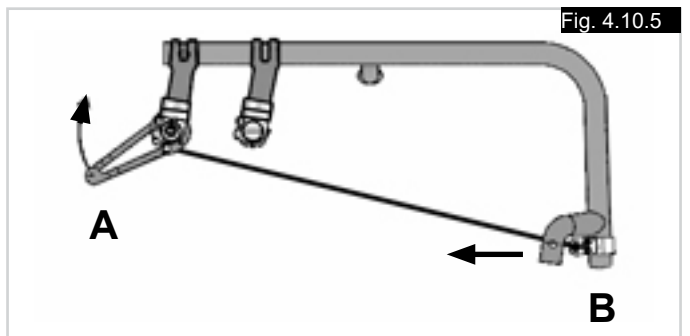

Fig. 4.10.5
- Move the tensioner tool, (A), upwards until the receptor and the front tube, (B), just starts to move towards the rear, (Fig. 4.10.5).
- Hold the cable under tension with the tensioner tool and tighten the screw on the rear cable receptor, (Fig. 4.10.5).